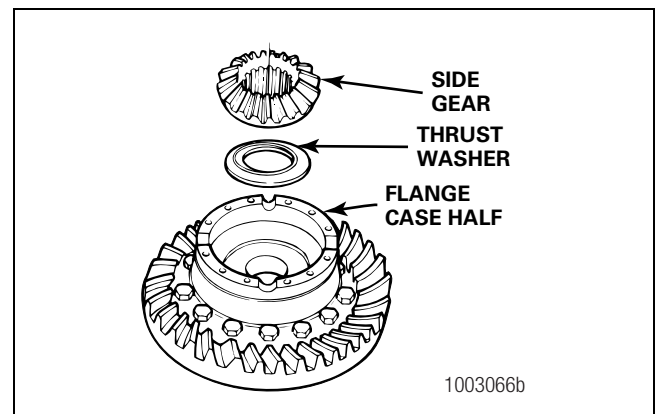

Figure 5.22
11. Install one thrust washer and side gear into the flange case half. Figure 5.22.